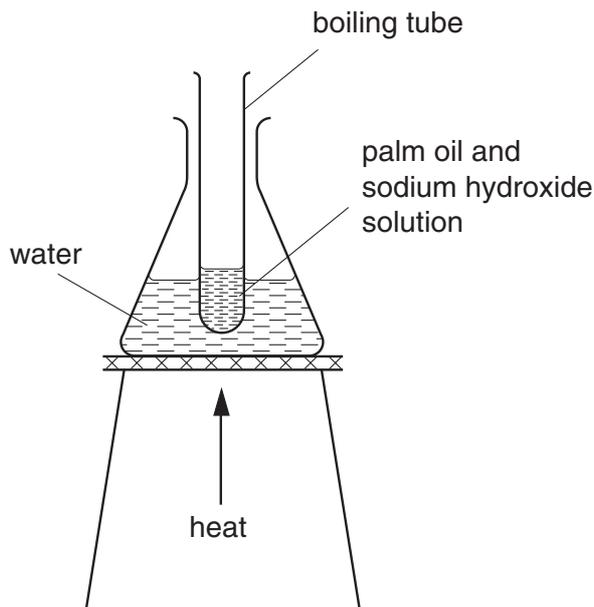

Fig. 3.1
- (d) The next stage of making soap was to heat the colourless palm oil with concentrated sodium hydroxide solution, using the equipment below, Fig. 3.1. Concentrated sodium hydroxide is a very corrosive alkali.